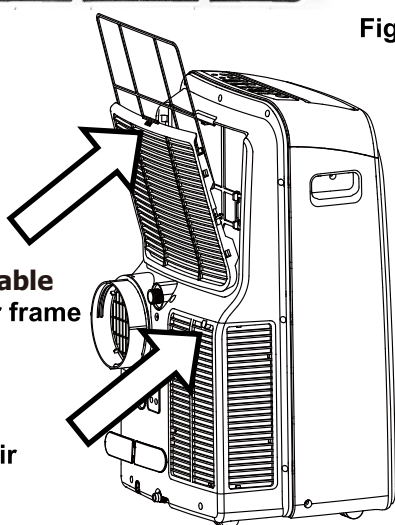

Fig. 7c
- Dry thoroughly before re-inserting the filters. (Fig. 7c)